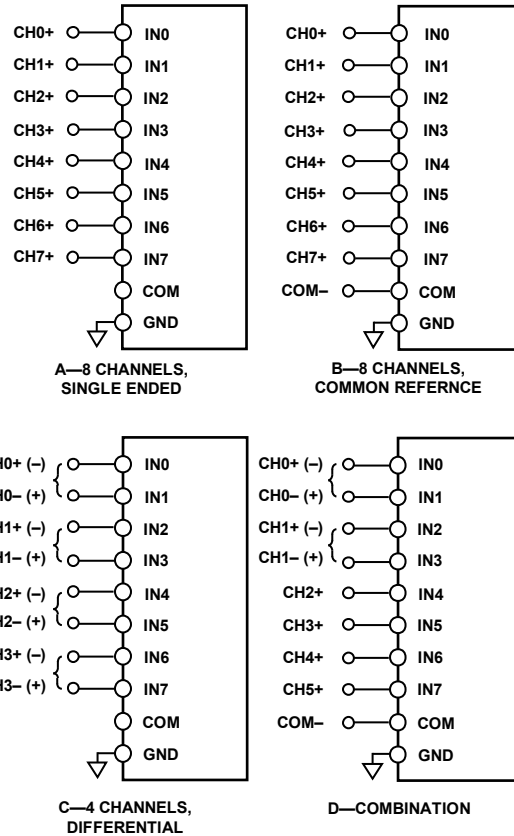

Figure 32. Multiplexed Analog Input Configurations
Figure 32 shows the different methods for configuring the analog inputs with the configuration register, CFG[12:10]. Refer to the Configuration Register, CFG, section for more details.
- Figure 32 (A), single-ended referenced to system ground; CFG[12:10] = 1112. In this configuration, all inputs (IN[7:0]) have a range of GND to  $V_{REF}$ .
- Figure 32 (B), bipolar differential with a common reference point; COM =  $V_{REF}/2$ ; CFG[12:10] = 0102. Unipolar differential with COM connected to a ground sense; CFG[12:10] = 1102. In this configuration, all inputs IN[7:0] have a range of GND to  $V_{REF}$ .
- Figure 32 (C), bipolar differential pairs with the negative input channel referenced to  $V_{REF}/2$ ; CFG[12:10] = 00X2. Unipolar differential pairs with the negative input channel referenced to a ground sense; CFG[12:10] = 10X2. In these configurations, the positive input channels have the range of GND to  $V_{REF}$ . The negative input channels are a sense referred to  $V_{REF}/2$  for bipolar pairs, or GND for unipolar pairs. The positive channel is configured with CFG[9:7]. If CFG[9:7] is even, then IN0, IN2, IN4, and IN6 are used. If CFG[9:7] is odd, then IN1, IN3, IN5, and IN7 are used, as indicated by the channels with parentheses in Figure 32 (C). For example, for IN0/IN1 pairs with the positive channel on IN0, CFG[9:7] = 0002. For IN4/IN5 pairs with the positive channel on IN5, CFG[9:7] = 1012. Note that for the sequencer, detailed in the Channel Sequencer section, the positive channels are always IN0, IN2, IN4, and IN6.
- Figure 32 (D), inputs configured in any of the preceding combinations (showing that the AD7682/AD7689 can be configured dynamically).